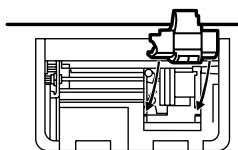

Fig. 3
- 4) Install the new ink roller in the correct position. Make sure that the roller is securely in place. (Fig. 3)